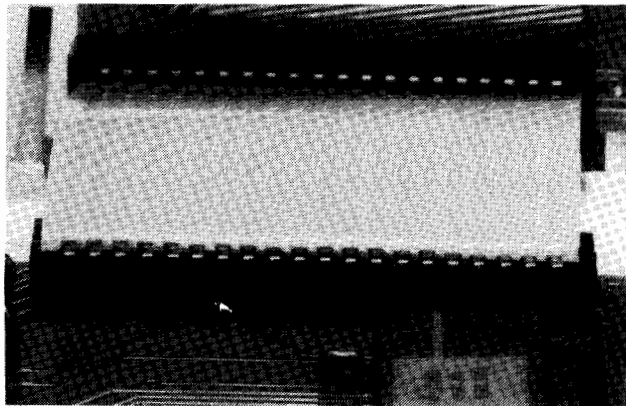
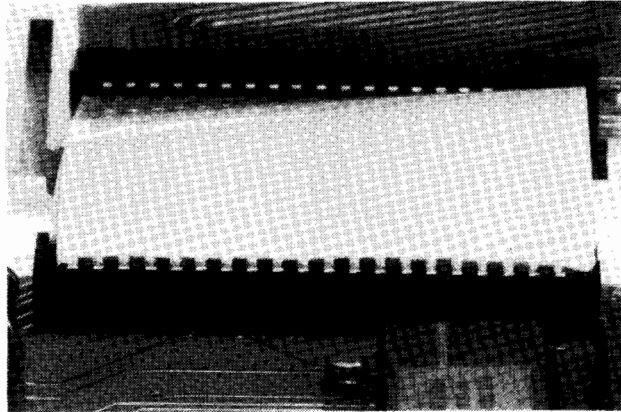
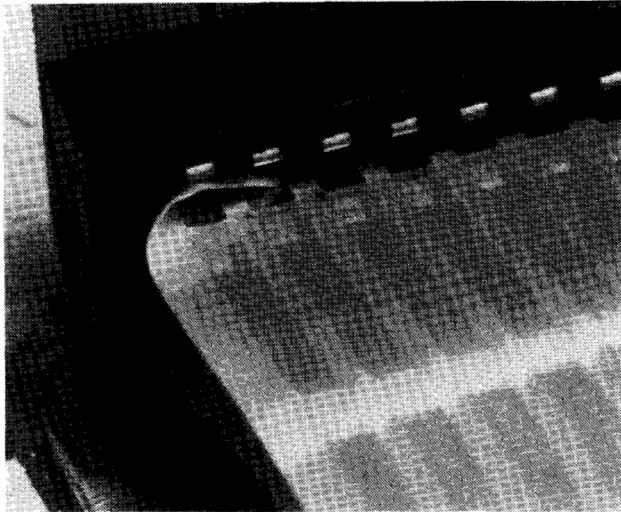

Figure 3-3. Cable Connected Properly
Figure 3-4. Cable Connected Misaligned
Figure 3-5. Cable Connected With Edge Folded Over
- c. Make sure that the cable contacts are properly aligned with the connector contacts and that neither edge of the cable is folded over. Figure 3-3 shows a cable connected properly. Figure 3-4 shows a cable connected misaligned, and figure 3-5 shows a cable connected with an edge folded over.